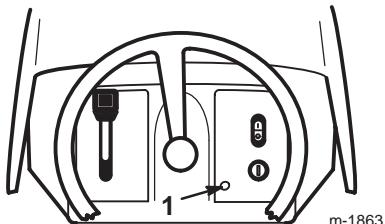

**Figure 10**
If you need to use the blades (PTO) while backing up, you can turn off this interlock feature using the KeyChoice switch located near the seat bracket (Fig. 10).
2. Insert the KeyChoice key into the switch (Fig. 10).